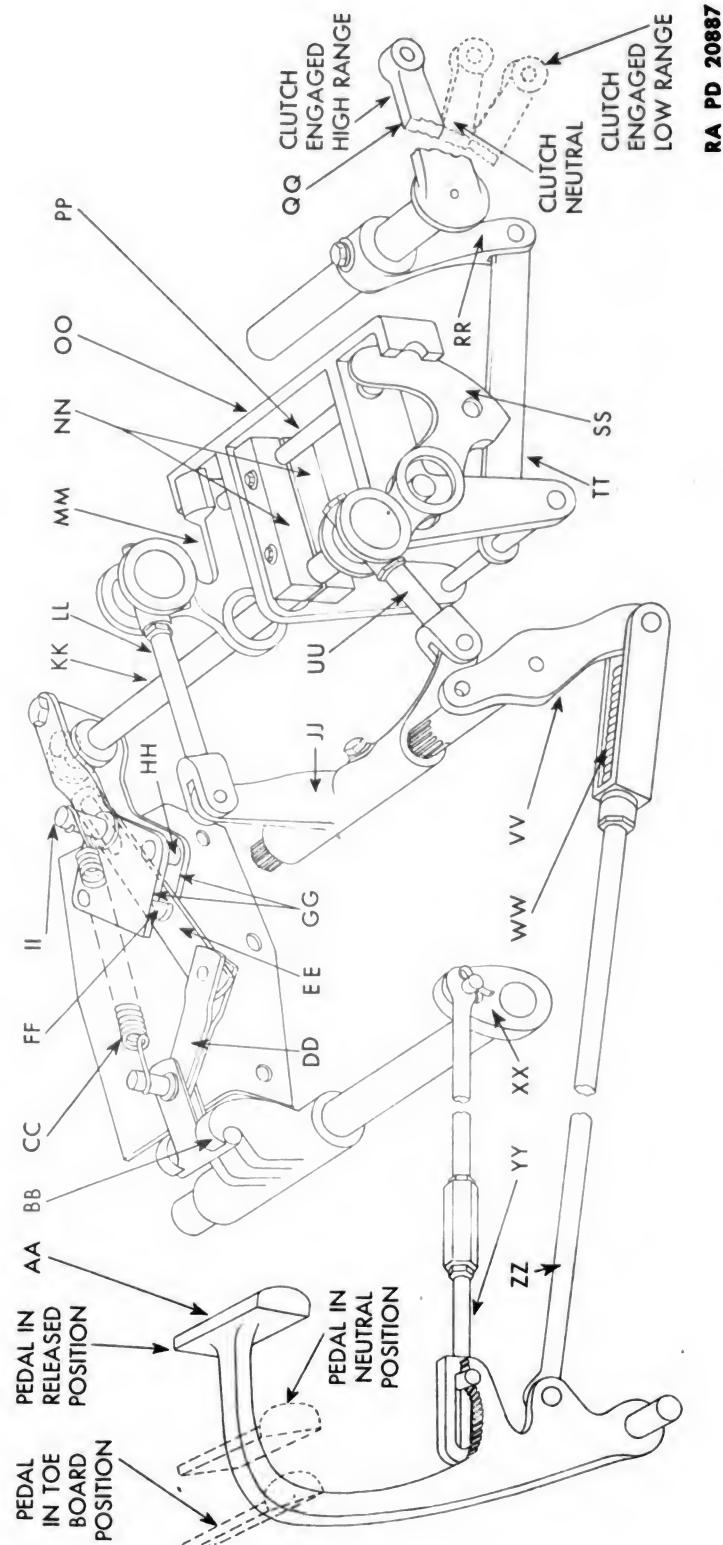

Figure 158 — Schematic Drawing of Clutch Selector — Clutch Engaged
*Legend for Figure 158 — Schematic Drawing of Clutch Selector — Clutch Engaged
(3) **CLUTCH DISENGAGED** (fig. 158). Depressing the service clutch pedal (AA) from neutral to the toeboard does not affect the
(4) **CLUTCH DISENGAGED** (fig. 158). When the service clutch pedal is released back to neutral, the toggle lever (XX) also moves back. This permits the two toggle operating arms (DD and EE) to move backward, due to the pulling force of the toggle overcenter springs (CC). As the toggle operating arms (DD and EE) move backward, a guide pin (FF) in the rear arm contacts the toggle plates (GG), and slides along the diagonal sides of the plates until the arm strikes a stop pin (HH) between the two plates. When this happens, the toggle plates pivot on the pin (II), and move the shifter rod (KK) sideways. The shifter rod (KK) is connected to the rear end of the toggle plates, and is also connected to the shifting lever pin (PP) by the shifting levers (NN). When the shifter rod (KK) moves, the shifting levers (NN) and the shifting lever pin (PP) move with it, thereby disengaging the high-range lever (MM) and engaging the low-range lever (SS).